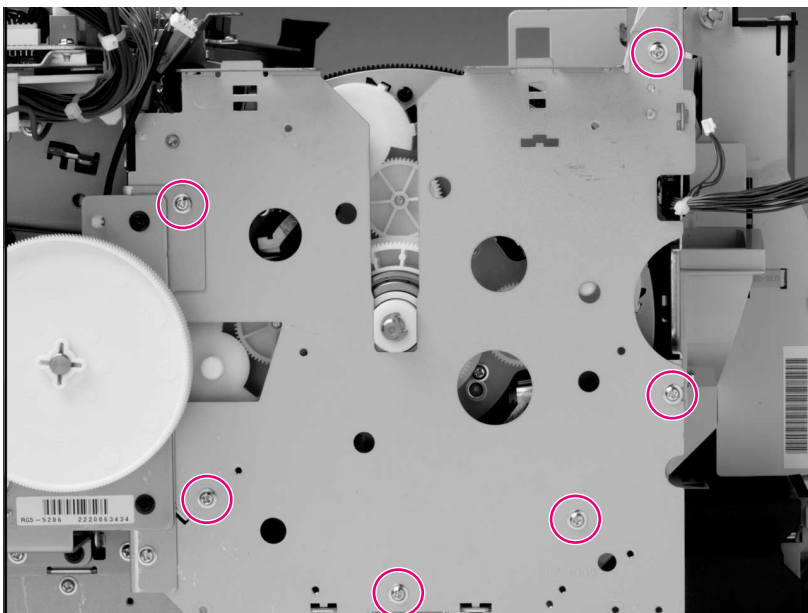

Figure 6-67 Cartridge carousel replacement - right-side carousel mounting plate (5 of 6)
- 28 Remove all visible screws from the carousel mounting plate on the printer’s right side (see Figure 6-67).